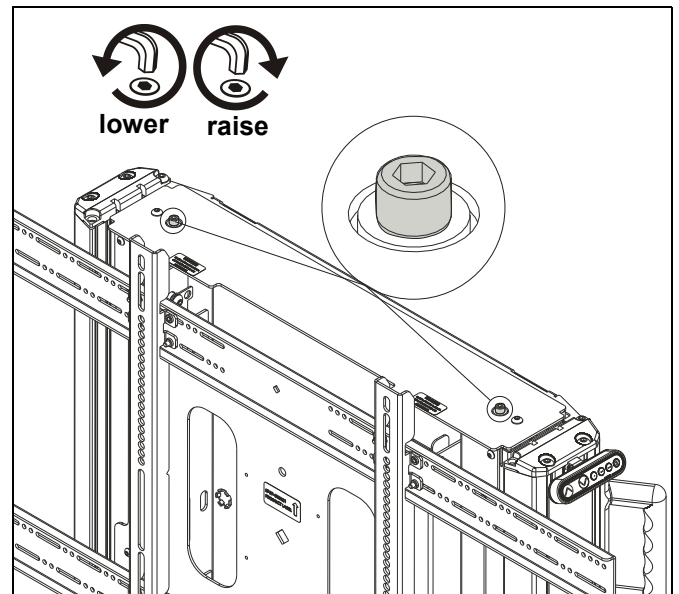

Figure 16
- Use 3/16" hex key to adjust leveling adjustment screws on top of cart. (See Figure 16)